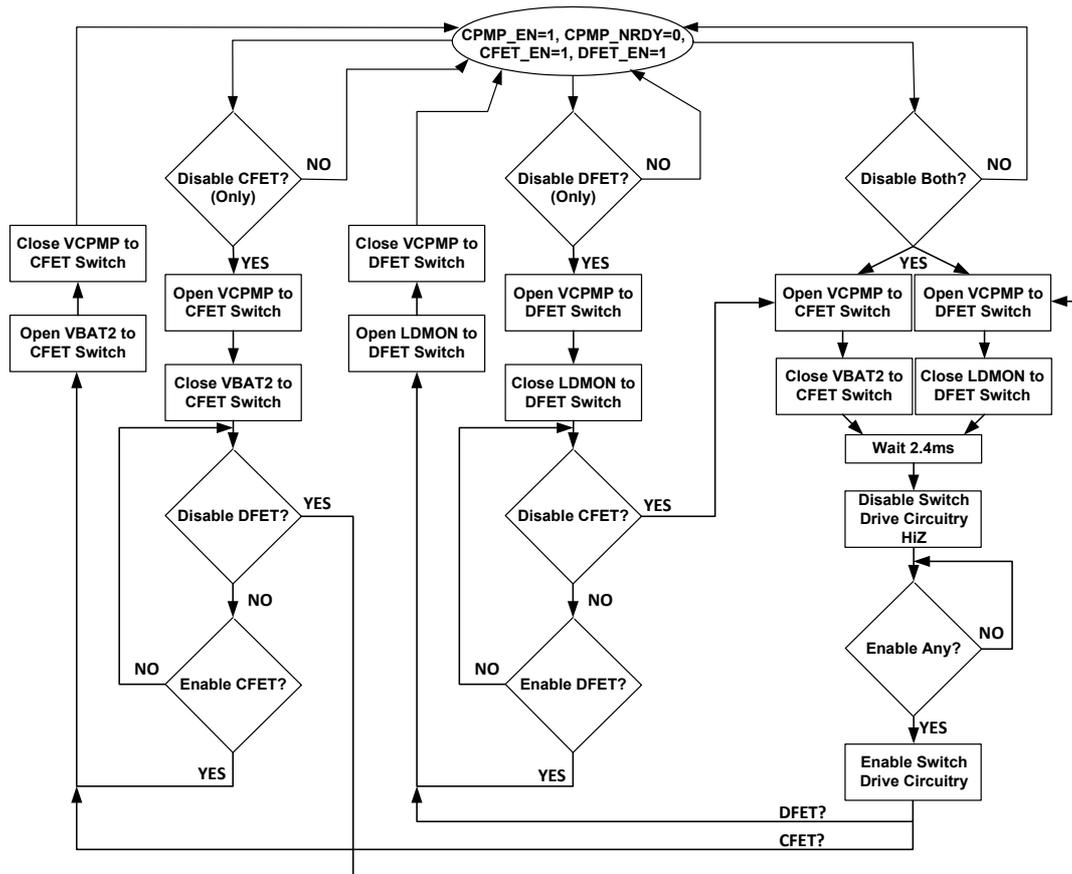

Figure 103. C/DFET Shutdown Flowchart
See “DFET Pin (50)” and “CFET Pin (51)” for the cases of when CPWR is set to “1” for parallel power FET applications. See Figure 103 for the shutdown sequence for these pins.